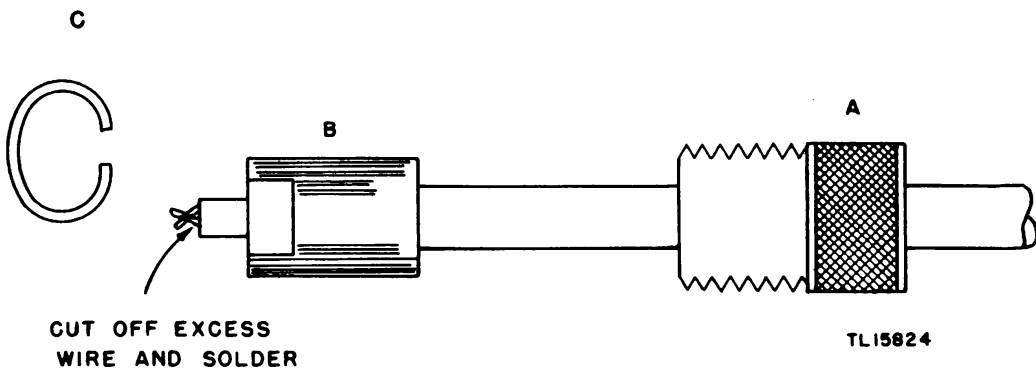

Figure 19. Assembly of plug No. 761.
c. Assemble the plug as shown in figure 19.
- (1) Slide the gland nut "A" over the end of the cable.
- (2) Feed the twisted conductors through "B", then, with pliers, push and turn "B" clockwise until the threads grip tightly on the vinyl jacket.
- (3) Solder the twisted conductors to plug tip of "B", and cut off excess wire.
- (4) Slide gland nut "A" over "B".